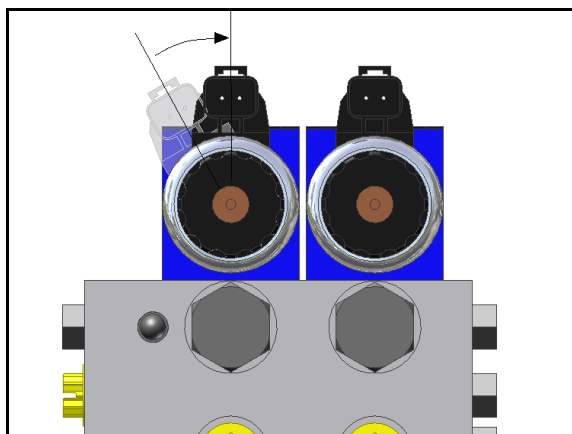

Figure 25: Align Coils
2. Verify the valve coil connectors are oriented vertically (Figure 25).